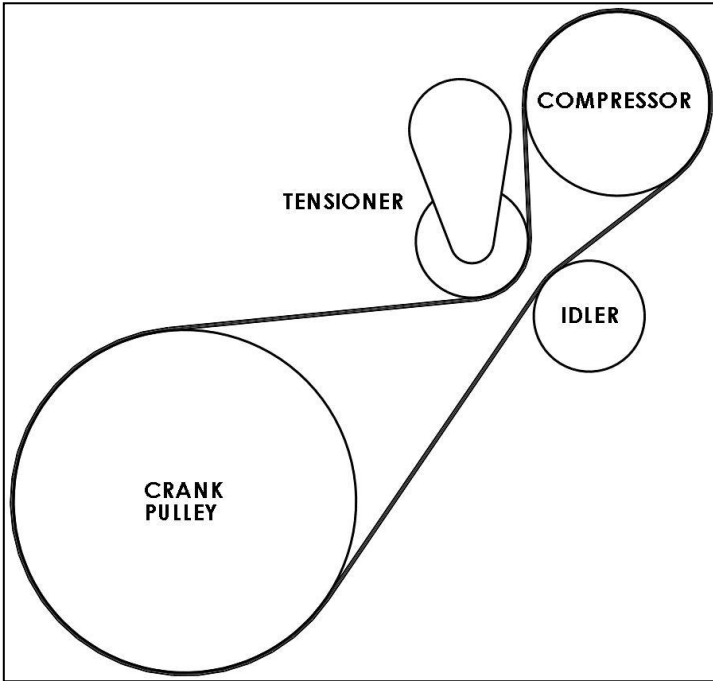

Figure 22 - VMAC Belt routing
- Install VMAC drive belt per Figure 22.